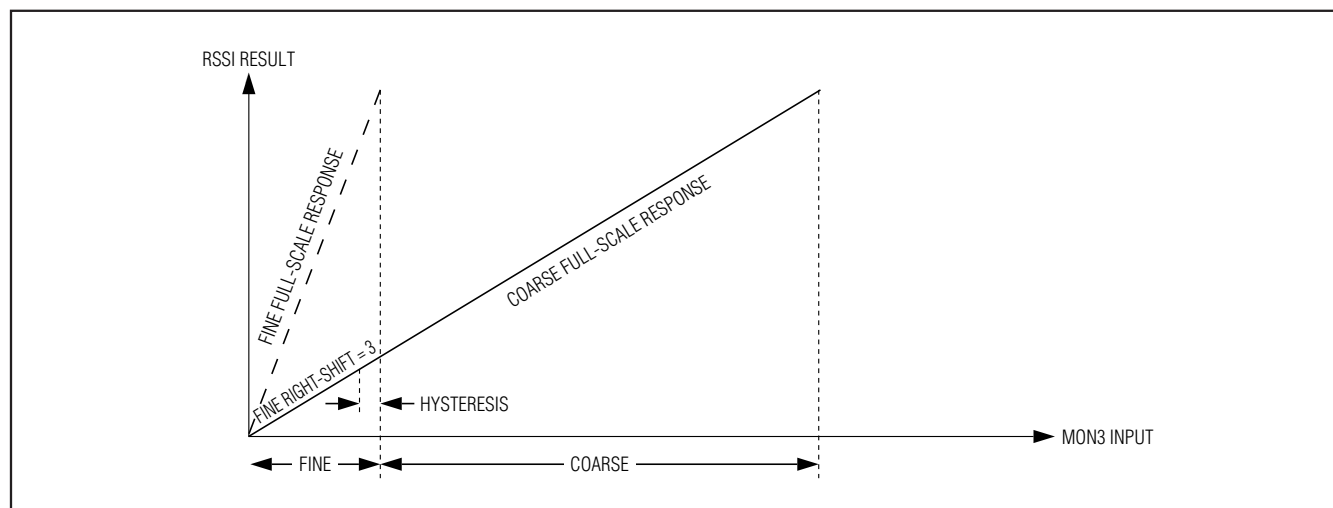

Figure 8. RSSI with Crossover Disabled
- Crossover Disabled:** The crossover-disabled mode is intended for systems with a linear relationship between the MON3 input and the desired ADC result. Hysteresis allows for a nonjittery response when the input is at the crossover boundary of the fine and coarse ADC. In a nonlinear system, the hysteresis could cause significant errors in the ADC result. See Figure 8.